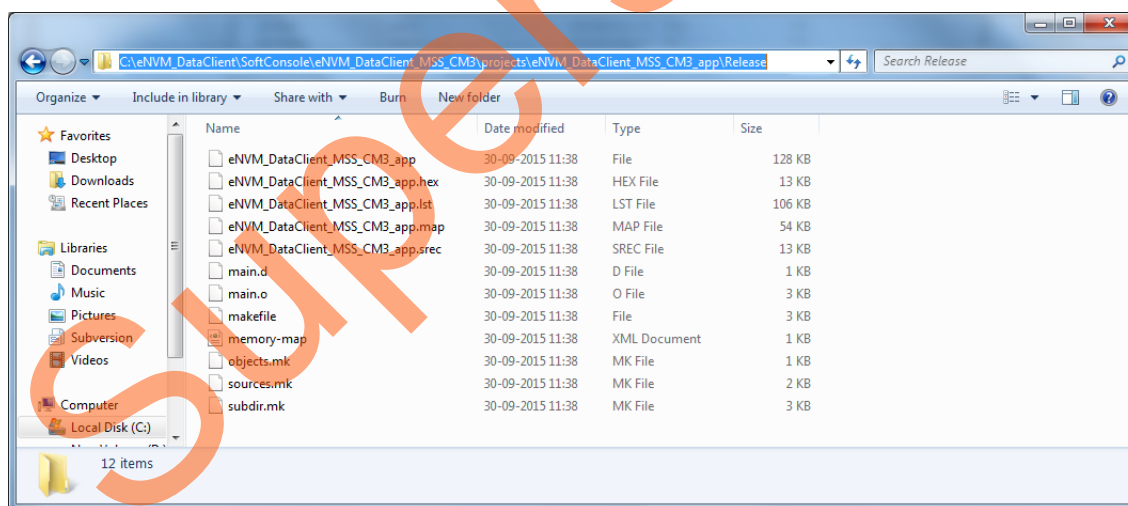

Figure 25 • Updated Hex File in Release Folder
3. Browse through the updated .hex file generated in the Release Mode from the SoftConsole application project, see Figure 25. Click **OK**.